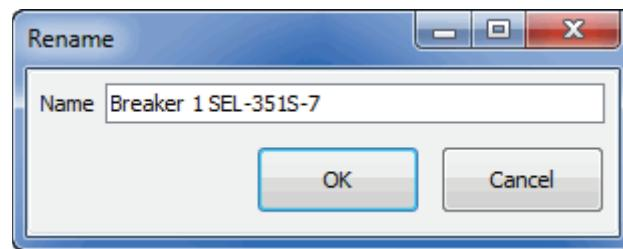

Figure 23 Rename Connection
- Step 10. Rename the SEL-351S-7 **Breaker 1 SEL-351S-7** as shown in *Figure 23*. Select **OK** to accept the name change.